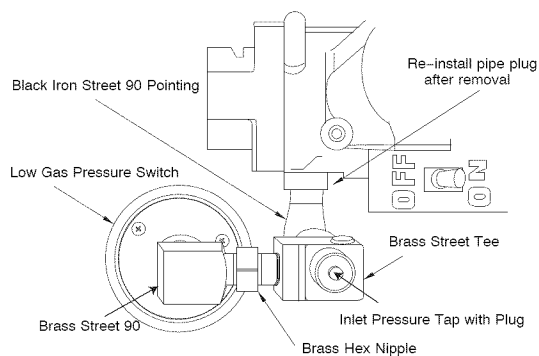

Fig. 9 - Low Gas Pressure Switch - All Widths
If the vent pipe passes between the inducer and burner assembly, or the furnace is a 14 3/16-in. (360 mm) wide casing, the switch may have been installed as follows (See Fig. 9).
1. Remove low gas pressure switch, brass street 90° elbow, brass Hex nipple, brass tee and black iron street 90° elbow from the gas valve inlet pressure tap. (See Fig. 9.)